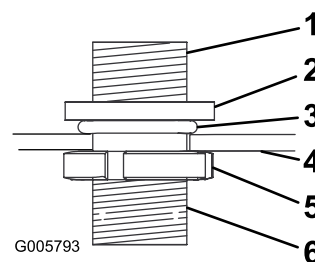

Figure 16
2. Install the bulkhead fitting with the seal facing down into the hole drilled in the main tank (Figure 16).
Important: Ensure that the seal is seated correctly between the bulkhead flange and the tank surface (Figure 16).
3. Secure the fitting and seat the seal by installing the plastic ring nut to the threads of the fitting in the tank interior and hand tightening (Figure 16).